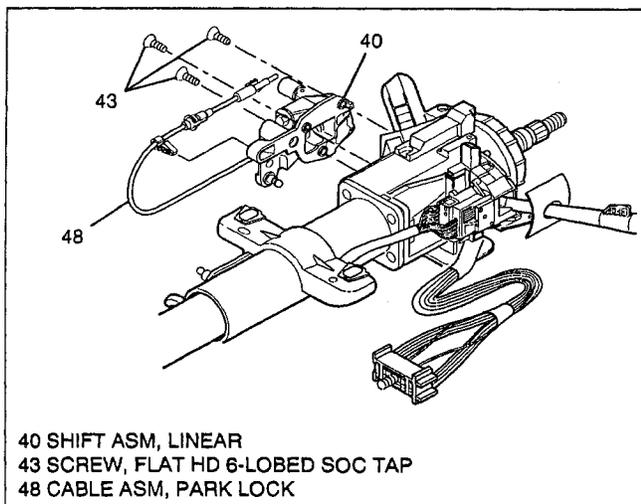

Figure 18 - Removing Linear Shift Assembly
- C. Unlock adjuster ring on cable assembly (48) with tool J 41396. (See Figure 18)